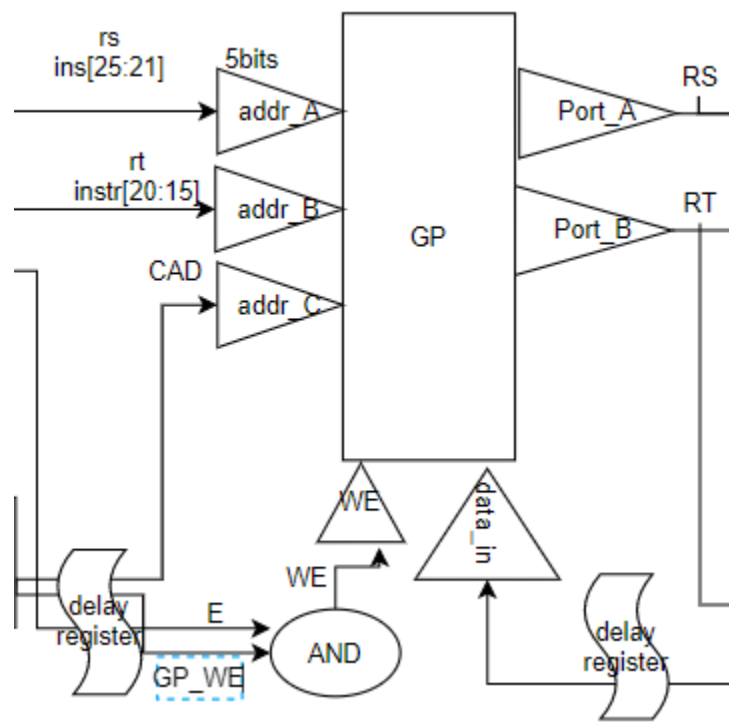

Figure 3
Figure 3 depicts circuits associated with general purpose registers (GP). As we can see, the address of PortA and PortB are directly RS (inst[25:21]) and RT (inst[20:15]) fields of instruction.